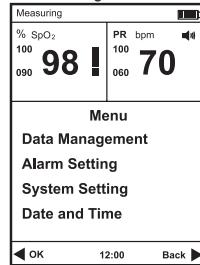

Fig.4-1
- 1) Press the power switch for 3 seconds to power on the oximeter and then press the menu button to enter the main menu, refer to the Fig.4-1.